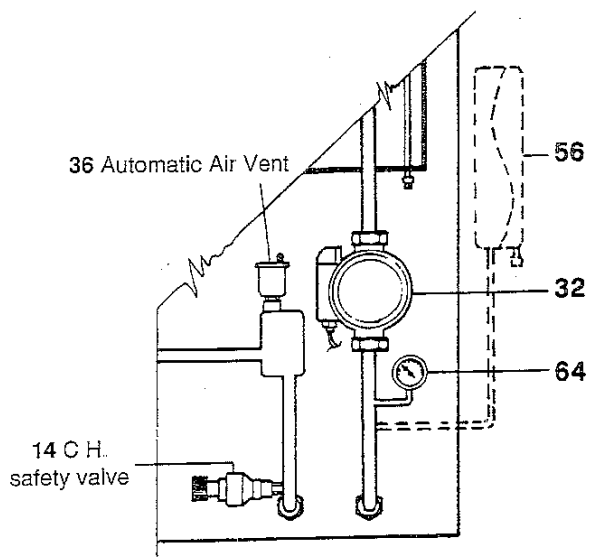

Fig 3
- Check automatic air vent (fig. 3).
| POSITION | MINIMUM SPACING (fig. 3) | mm |